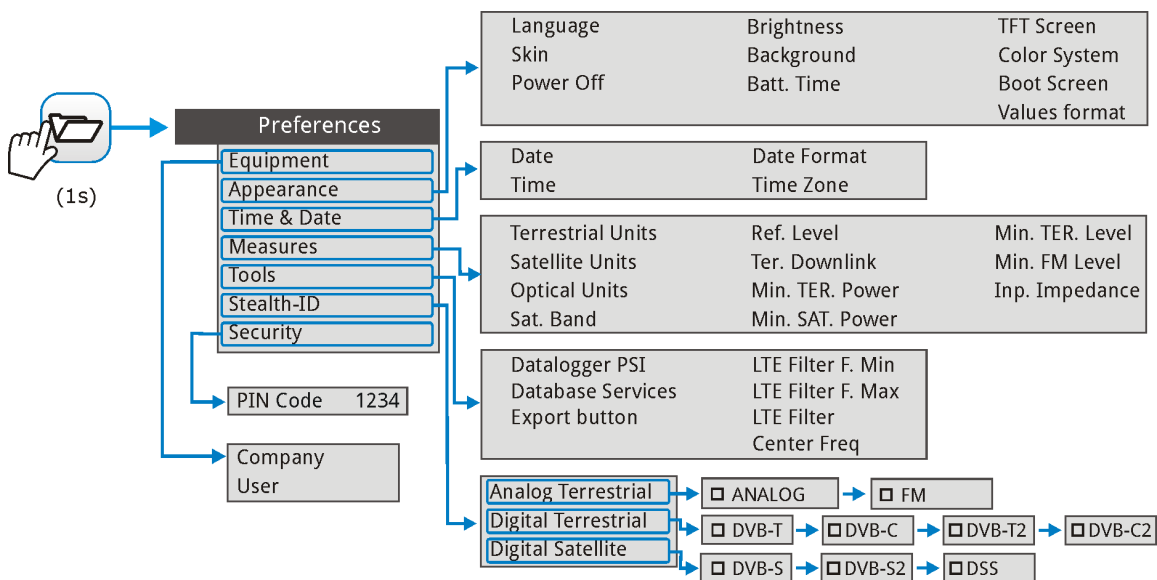

Figure 7.
- 2 In the **StealthID** tab, select the signal types to auto-identify (see "Menu tree" figure 7). By default all them are selected. Press the  key to save the changes made and the  key to exit the **Preferences** screen.